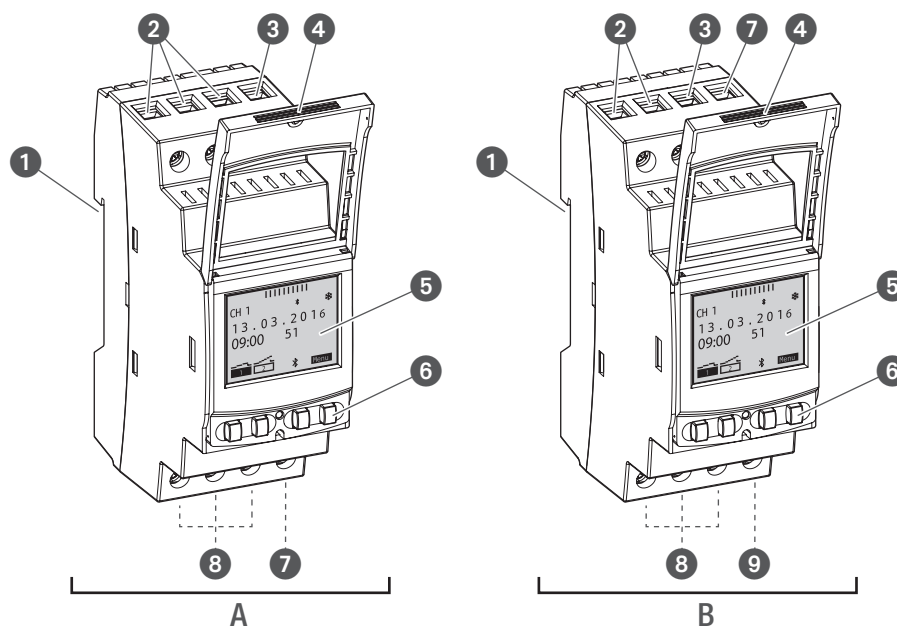

Fig. 1: DIN-rail timer
The DIN-rail timer is a timer that is installed on a DIN rail (Fig. 1/①) by means of a click system; the timer activates the connected device. The DIN-rail timer has one or two channels and can be operated via a display (Fig. 1/⑤) with four control buttons (Fig. 1/⑥). The DIN-rail timer can be programmed manually or via a mobile device. The radio signal frequency is 2.4 GHz and the maximum transmission power is 1.8 mW.